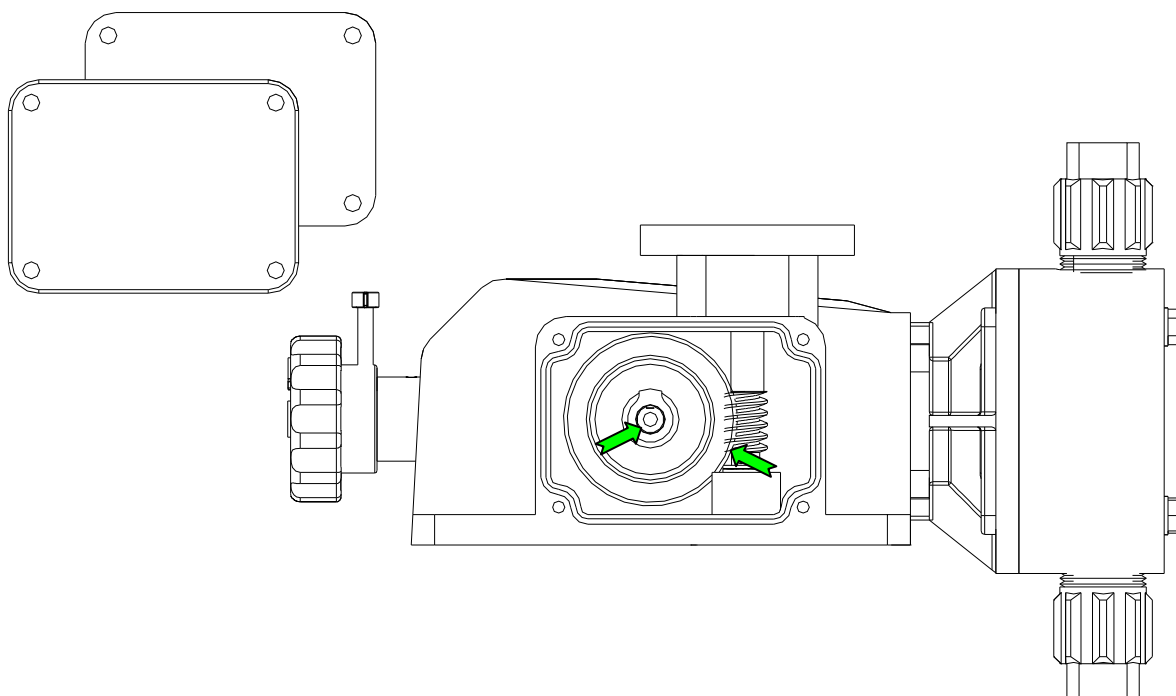

Figure 7, gearset lubrication points
2. Remove the side cover from the pump. Refer to *Figure 7*.
3. Redistribute grease onto gear and worm teeth. On DC2 and 3 pumps, force grease into the hole in the end of the gear shaft using a screwdriver or putty knife. Primary lubrication points are called out in *Figure 7*, below.